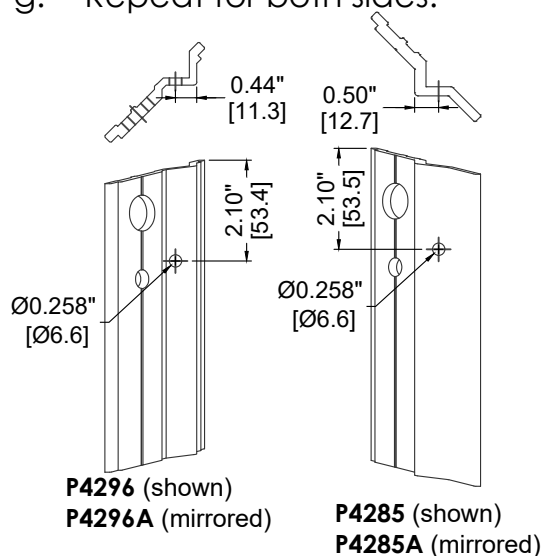

FIG. 4
- a. Before assembling OS/IS corner verticals to horizontals, drill $\varnothing 0.258"$ [6.6] clearance hole through lifting lug as per **FIG. 4**.